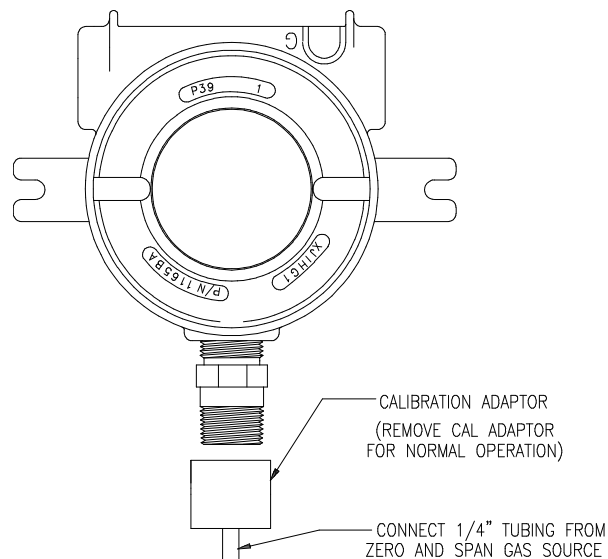

Figure 15 - Calibration Adapter Assembly
As previously mentioned, adjusting the transmitter zero requires that the sensor be exposed to air that is free of combustible gas. If the area in which the sensor is operating is known to be gas free, then the transmitter can be zeroed without further equipment. If not, use of "zero air" from a gas cylinder is recommended. Zero air is available as part of all ATI calibration kits, or may be obtained from any specialty gas supplier. When zero air is to be used, a calibration adapter must be used. The calibration adapter provides a confined space around the sensor into which the zero air can flow. Calibration adapter provide tubing fittings at the bottom to connect air tubing as shown in Figure 15. If your sensor is furnished with the Auto-Test generator, a calibration gas fitting is supplied at the bottom of the sensor assembly and is left in place at all times. For these systems, no separate calibration adapter is needed.
- Step 3 Screw a calibration adapter onto the sensor as shown in Figure 15. Connect your span gas source to either the inlet fitting on the calibration adapter or to the tube fitting supplied as part of the Auto-Test sensor assembly.